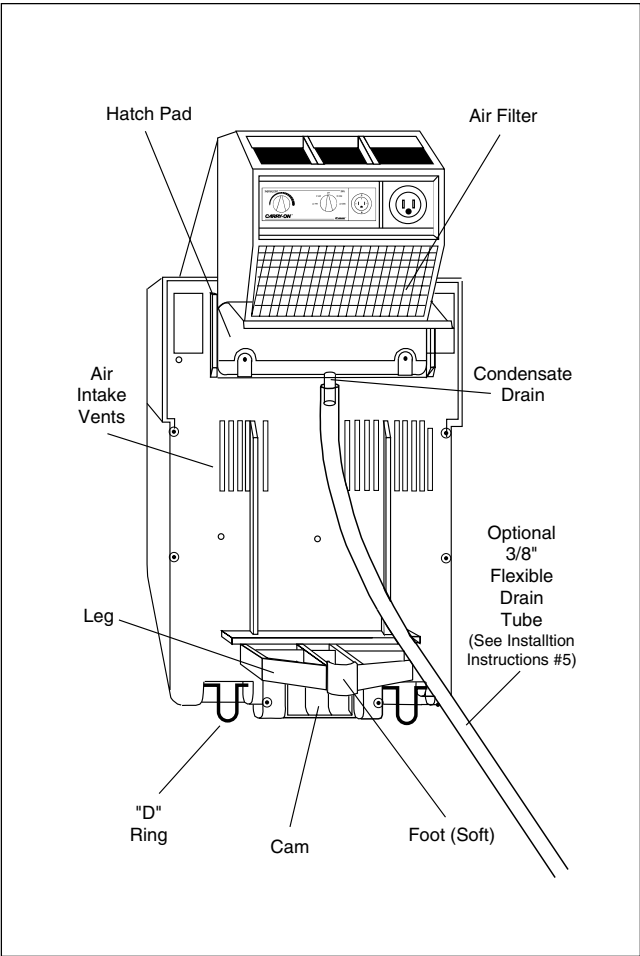

Figure 6. Bottom View of Carry-On
5. A condensate drain is located under the unit (See Figure 6) in a position such that water removed from the air is allowed to drain onto the deck. Should you desire to drain this water to another area, a 3/8" I.D. (See Figure 6) hose fits the condensate drain. **NOTE:** The hose must fall continually with no "up" loops.
Remove filter. (See Figure 6.) Gently wash by hand in a solution of mild soap and warm fresh water. Allow water to drain and reinstall. Extra filters may be ordered from your dealer.